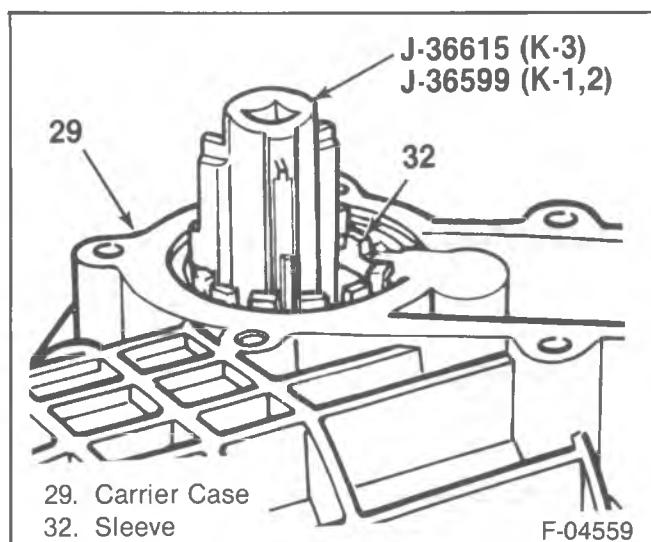

Figure 91—Removing the Adjuster Sleeves
10. Seal (3) off shaft (59).
11. Ten carrier case bolts (28).
- Using a brass drift, tap the three carrier case bosses provided to separate the cases (29).
12. Differential case (35) and ring gear (37).
- Place a small screwdriver between the adjuster sleeve (32) and the lock tab.
13. Side bearing cups (33) from the carrier case halves (29) using J-36599 for the right side bearing on the K-3 series and for both left and right side bearings on the K-1-2 series. Use J-36615 for the left side bearing on the K-3 series.
- Turn the adjuster sleeves using one of the tools mentioned in step 13 until the cups (33) are pushed from the cases (29) (figure 91).